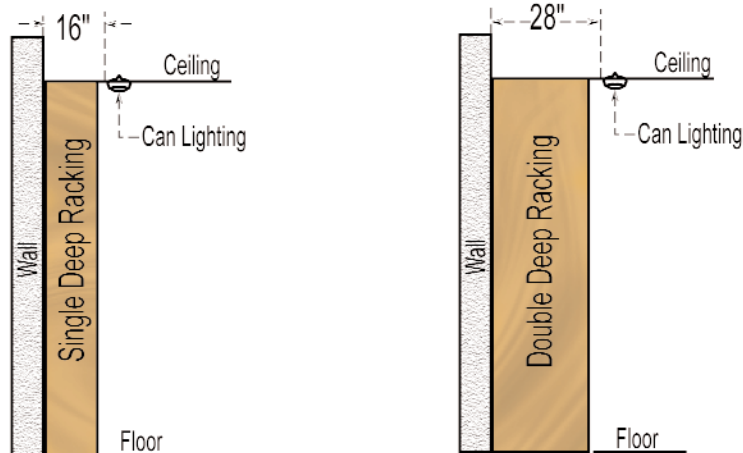

Figure 2
- All lighting must be a minimum of 16" at "Can Light" cover from wall for single deep racking. And a minimum of 28" at "Can Light" cover for double deep racking. (See figure 2 below)